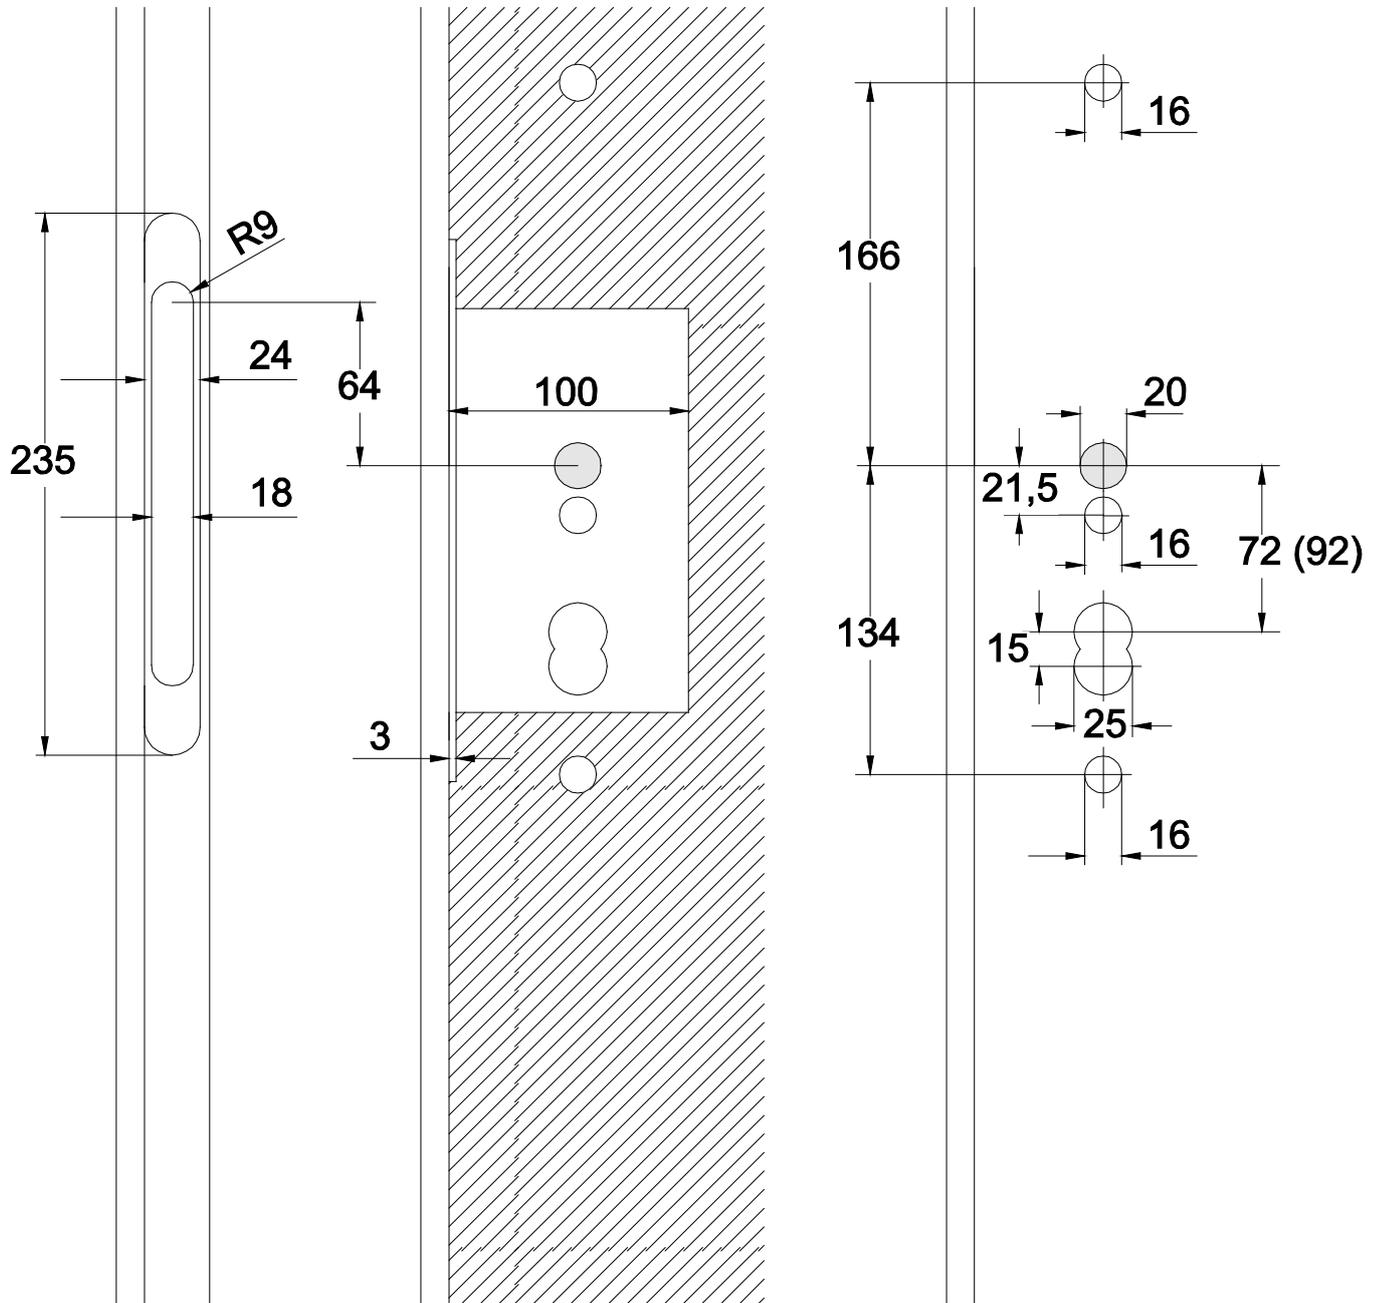

Fig. 3: Fitting dimensions and drilling diagram
- ▶ Drill all holes as shown in Fig. 3.